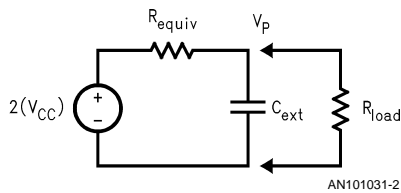
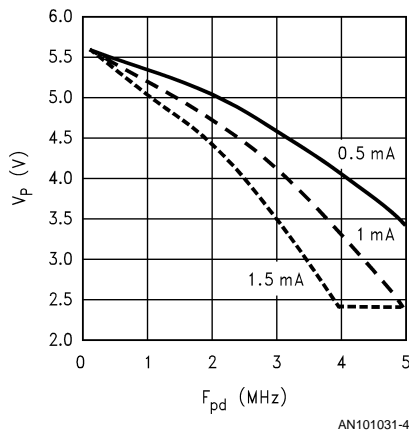

FIGURE 2. Voltage Doubler Switched Capacitor Realization Equivalent
FIGURE 3. Steady State V_P vs. F_{pd} (OSC_{in} = 10 MHz; V_{CC} = 3.0V)
During the first half of the oscillator cycle switch S_1 is closed, S_2 is down and S_3 is open, as shown in *Figure 1a*. This allows the internal capacitor to charge up to V_{CC} . The second half of the oscillator cycle switch S_1 is open, S_2 is up, and S_3 is closed, as shown in *Figure 1b*. This places the voltage on the internal capacitor in series with the supply voltage. Charge is redistributed to the external capacitor, C_{ext} . The internal switched capacitor can be ideally represented as a resistor and a voltage source as shown in *Figure 2*.
The steady state voltage loss is the difference between the ideal doubled voltage and the actual steady state V_P voltage. The steady state voltage loss is set by three factors; charge pump current setting, phase detector frequency, and RF oscillator frequency. When the PLL is locked, the charge pump is on for a short period of time every phase detector cycle. Current is required during this on time to operate the charge pump. These bursts of current averaged over the entire phase detector period can be viewed as a constant load, as shown in *Figure 2*. This load will reduce the voltage doubler's output voltage, V_P . Higher charge pump current settings and higher phase detector frequencies will increase the average load current, decreasing the voltage doubler's output voltage, V_P . However, a higher RF Oscillator Frequency will reduce the switched capacitor equivalent resistance, increasing the voltage doubler's output voltage, V_P . *Figure 3* plots the LMX2350 steady state V_P voltage versus phase detector frequency, F_{pd} , for three charge pump current settings when the RF Oscillator Frequency is 10 MHz and V_{CC} set to 3.0V.
The amount of time it takes the voltage doubler to charge the external capacitor can be determined using the simple RC time constant from Figure 2. Where C is the external capacitor and R is the switched capacitor equivalent resistance, found using Equation (1). The LMX2350 has an internal capacitor of 36 pF (picofarads). Equation (5) calculates the time required for the external capacitor to charge to 98% of its maximum voltage.